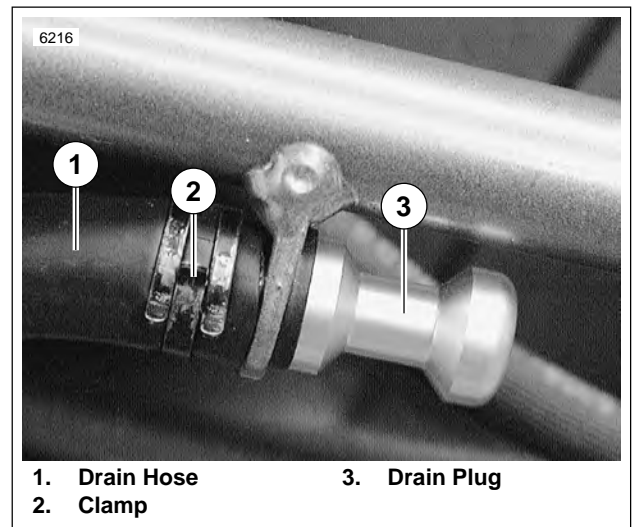
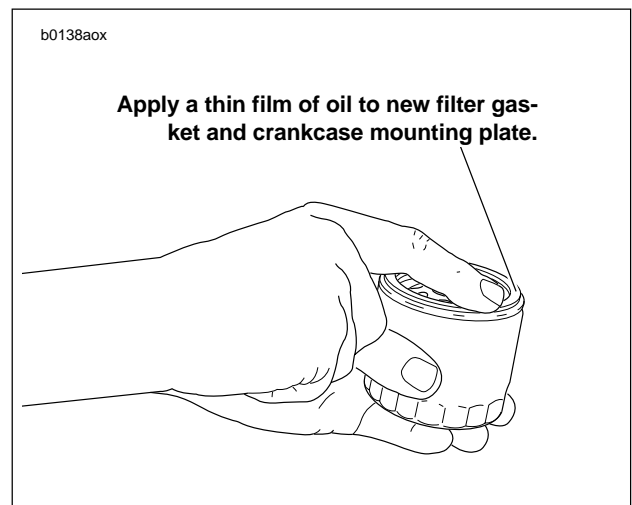

Figure 1-6. Oil Tank Drain Line
Figure 1-7. Oil Filter
2. See Figure 1-6. Compress clamp (2). Remove drain hose (1) from drain plug (3) by pulling hose forward. Direct hose to container and completely drain oil tank.
3. Install drain hose (1) on drain plug (3). Tighten clamp (2).
6. See Figure 1-7. Apply a thin film of oil to filter gasket contact surface on crankcase and to **new** oil filter.